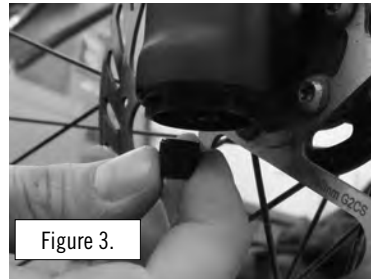

Figure 3.
2. At the bottom of the fork, remove the Schrader valve cap. Figure 3.